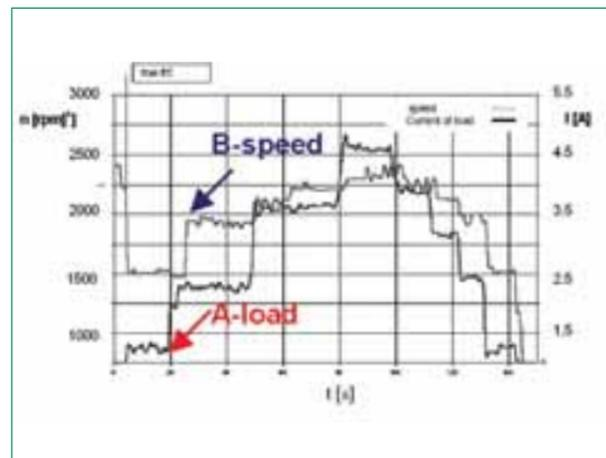

Figure 8. Experimental result of dynamic behavior of EGS3.
engine in the case of sudden power output increase requires the time of few seconds to change the speed of engine from the low to higher speed. During this time, the power required by the load is not available and diesel engine can by high load on the low speed stop undesirable. The measurement record of dynamic behavior of EGS with variable speed is shown in Figure 8. After sudden change of the load (A), the feedback control system sets a new opti-